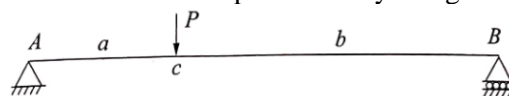

Fig.4.b
- 4 (b) A simply supported beam of span ' $l$ ' is subjected to a point load ' $P$ ' as shown in fig 4.b, Find the strain energy stored in the beam and the deflection under point load by using strain energy method. [12]